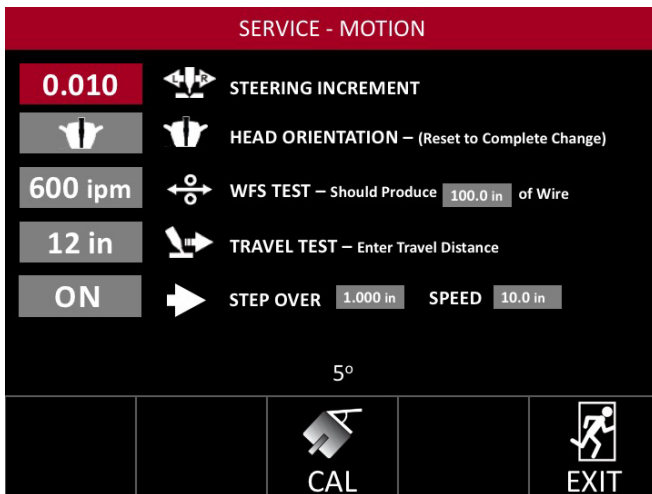

FIGURE 34 - Service Screen Step Over
- **Step Over** – When turned ON, the steering knob will control the travel motor rather than the oscillator position. The distance travelled (in) and the speed of the travel (in/min) for each steering knob click are selectable by the user – see **Figure 34 – Service Screen Step Over, page A-39**.
When an inclinometer is available in the weld head and the Outside Track Ring is selected on the Track /Setup screen, the CAL selection button icon is displayed at the bottom of the Motion Controls screen and the current weld head position is displayed directly above the icon, see **FIGURE 33 - Service Screen Motion** and **FIGURE 34 - Service Screen Step Over**.